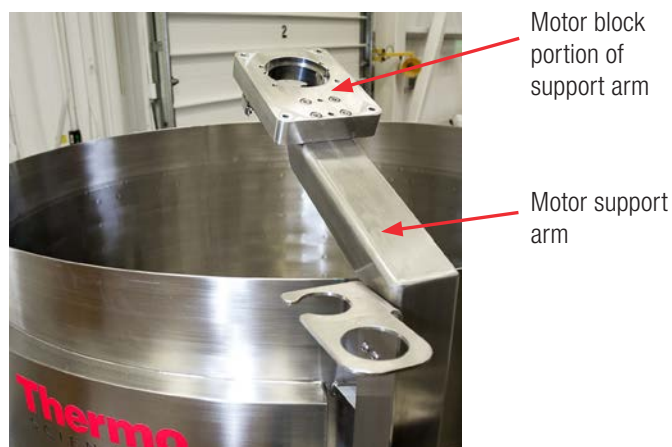

Figure 2.2. 2,000 L S.U.M. motor support arm assembly.
3. Place the motor on the motor block portion of the support arm (Figure 2.2).